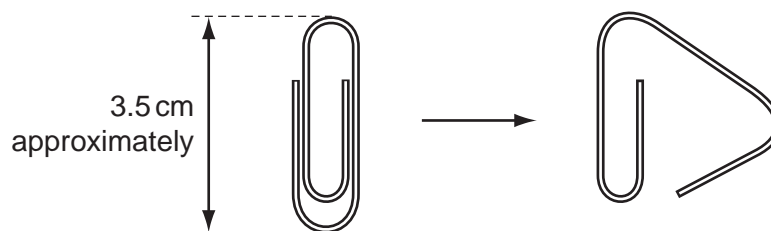

Fig. 2.2
- 2 The paperclip should be opened out, as shown in Fig. 2.2.